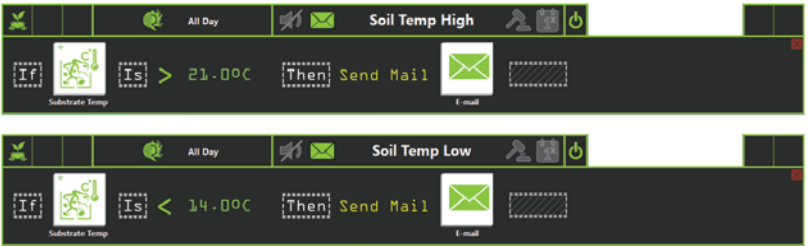

Figure 6 - Substrate Temperature High/Low Alarms Examples
► Figure 6 illustrates a set of alarms programmed to send a warning e-mail when the substrate temperature drops below 14 degrees Celsius (°C), or gets higher than 21°C.